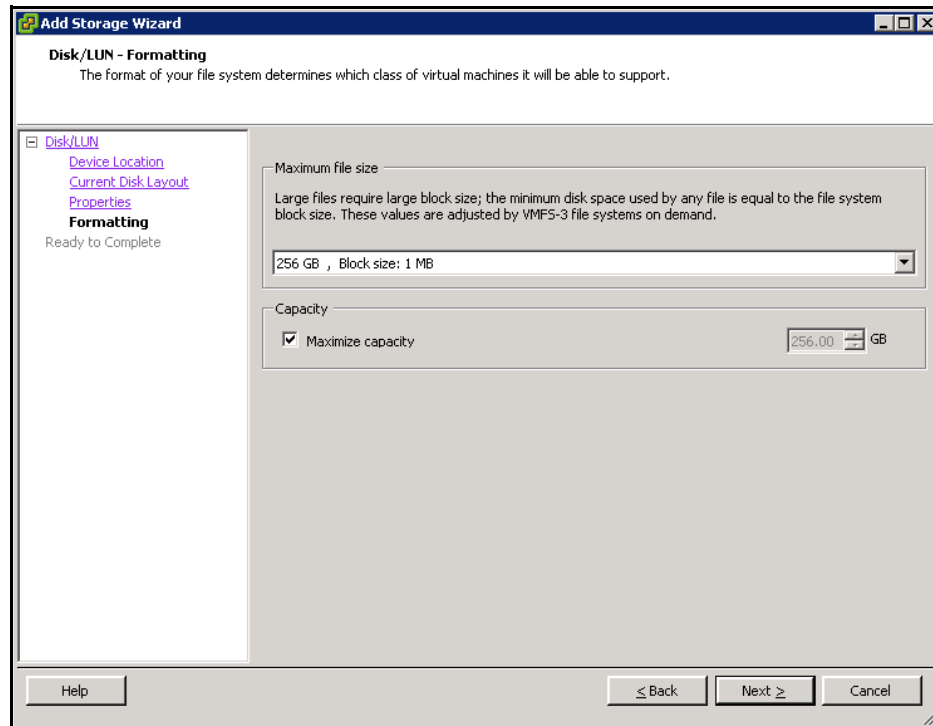

Figure 4-21: Disk/LUN Formatting Screen (Add Storage Wizard)
19. Under **Datastore Name**, enter a name for the VMFS volume and click **Next**. The Disk LUN Formatting screen in Figure 4-21 appears.